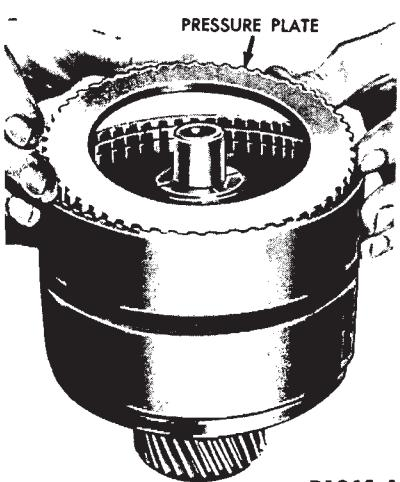
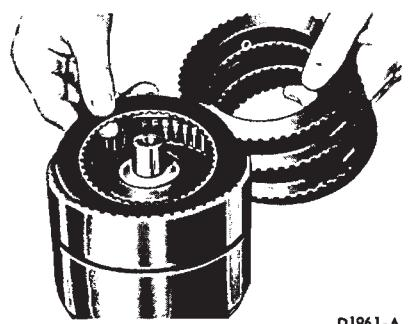

FIG. 38—Installing Pressure Plate
FIG. 39—Installing Clutch Plates
15. Install the pressure plate in the clutch cylinder with the bearing surface up (Fig. 38). Install the composition and the steel clutch plates alternately, starting with a composition plate (Fig. 39). When new composition clutch plates are used, soak the plates in automatic transmission fluid for 15 minutes before they are assembled.